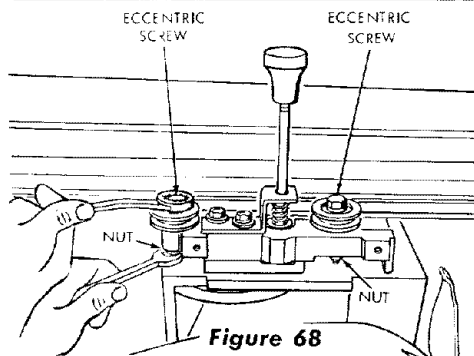
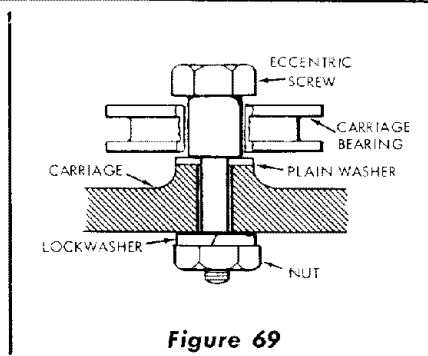

Figure 68
Figure 69
- (2) Loosen nuts (figure 68) just enough to permit the eccentric screws to turn. (See figure 69.)
- (3) Rotate the eccentric screws (figure 68) a partial turn (left or right) as required to take up looseness.
- (4) Hold the heads of eccentric screws (figure 68) in the position established in the preceding step and tighten nuts on underside of carriage. Correct adjustment exists when there is no play between the carriage and radial arm, and yet the carriage moves freely.